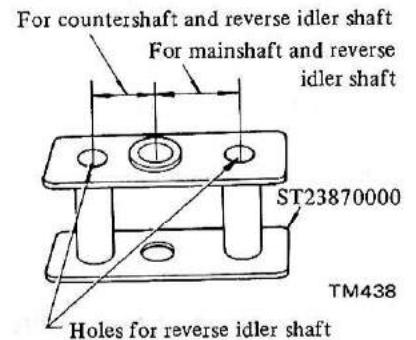

Fig. TM-29 Transmission Press Stand
2. Set Transmission Press Stand ST23870000 and place adapter plate assembly on it. See Figure TM-29.